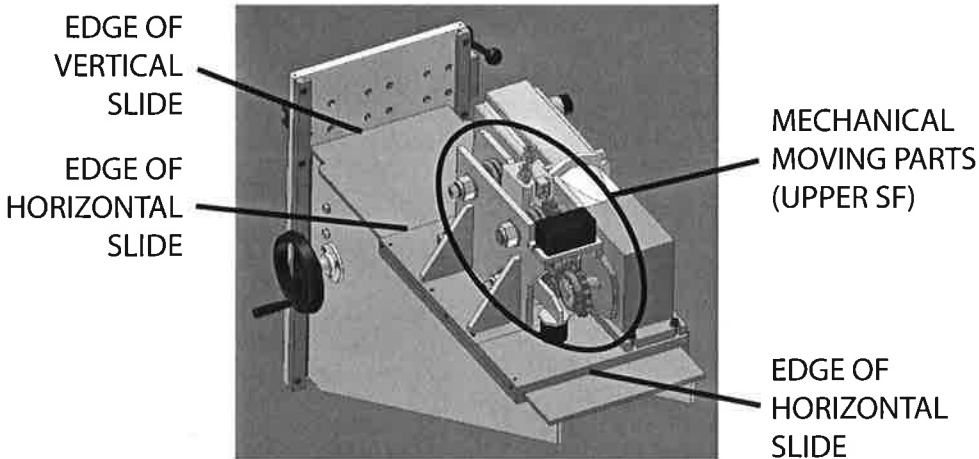

Figure 9.4-3: Removing Debris From the Mechanical Moving Parts, and the Horizontal and Vertical Slide Assemblies Inside the SF
- 4. From the top of the SF, use vacuum and brush to remove debris off the mechanical moving parts, and the edges of the horizontal and vertical slide assemblies inside the SF. See *Figure 9.4-3*.